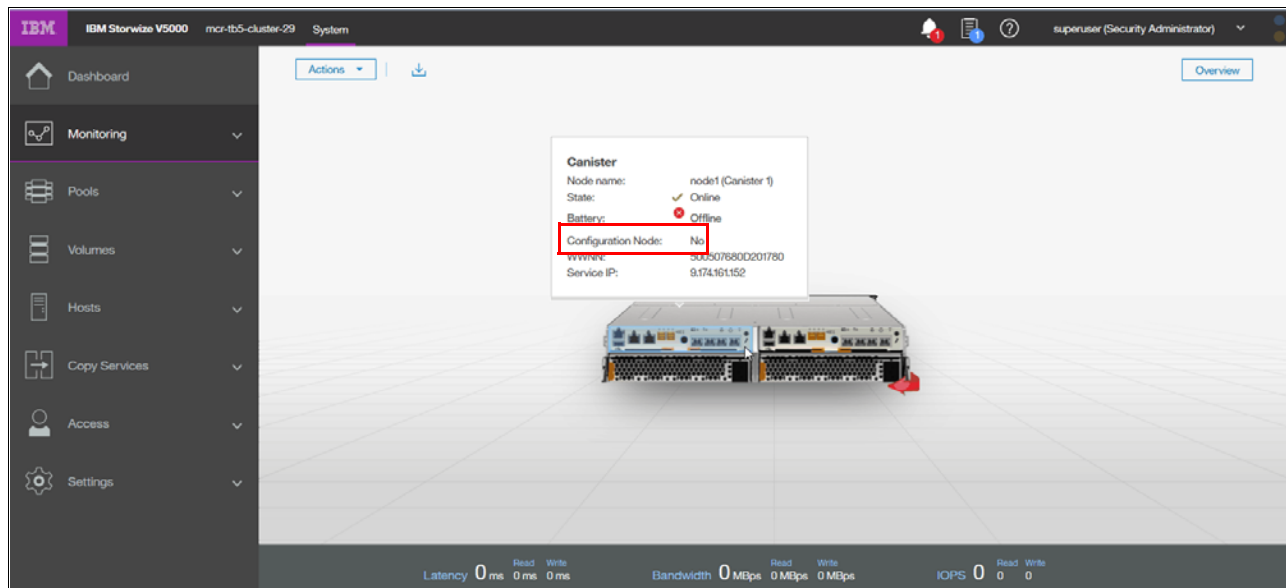

Figure 12-49 Checking the configuration node status
- Choose a node to update. Non-configuration nodes must be updated first. Update the configuration node last. Browse to **Monitoring** → **System** and hover over the canisters to confirm the nodes that are the non-configuration nodes, as shown in Figure 12-49 on page 660.